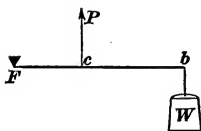

FIG. 1.
1. A **lever** is a bar capable of being turned about a pivot, or point, as in Figs. 1, 2, and 3.
1. The lever of a safety valve is of the form shown in Fig. 1, where the force is applied at a point between the fulcrum and the weight lifted. If the distance from the fulcrum to the valve is  $5\frac{1}{2}$  inches and from the fulcrum to the weight is 42 inches, what total force is necessary to raise the valve, the weight being 78 pounds and the weight of valve and lever being neglected? Ans. 595.64 lb.